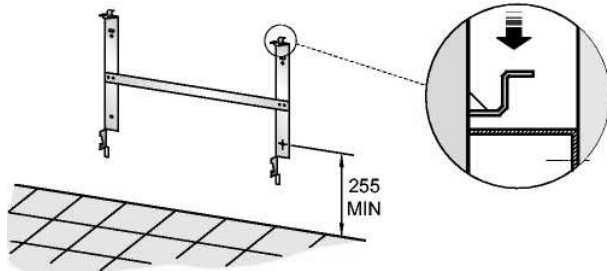

Fig. 2
1. Remove wall mounting bracket from the back of the heater by depressing the spring latch at the top of each bracket - see Fig. 2.
To release heater from the wall bracket for cleaning or redecoration, depress latch on both brackets (see Fig. 2) and hinge forward.